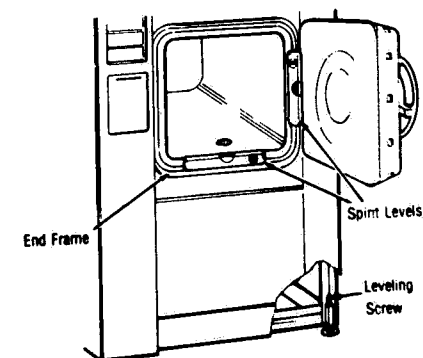

Figure 5-1. LEVELING THE STERILIZER.
1. Assure sterilizer shell is level (front to back) by placing a level on the vertical face of the end ring (at the hinge side). Assure sterilizer shell is level (side to side) by placing a level on the horizontal surface of the end ring. Adjust leveling feet accordingly to achieve level conditions. See Figure 5-1.